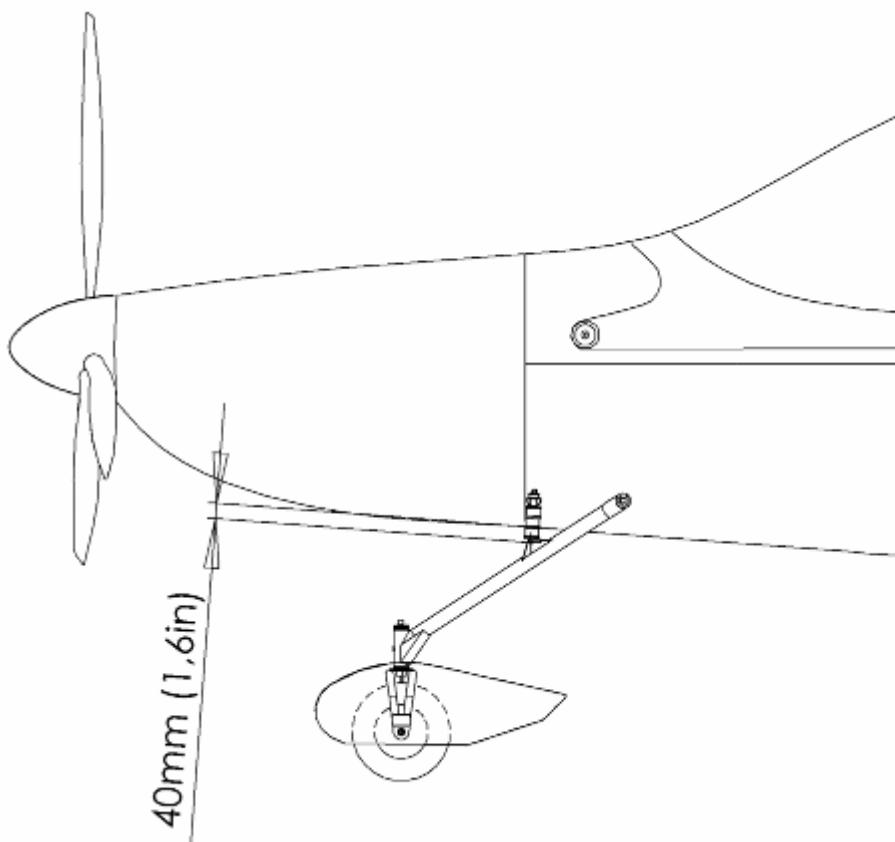

Fig. 8-10: Check of nose landing gear shock absorber
- (b) Measure value of absorber and nose landing gear compression according to Fig. 8-10. Perform measuring in vertical direction between bottom part of engine cowl and the lower shock absorber attachment. The minimum value of X dimension is 50 mm (2 in). If this value is lower then exchange the springing elements (see paragraph 8.5.2).